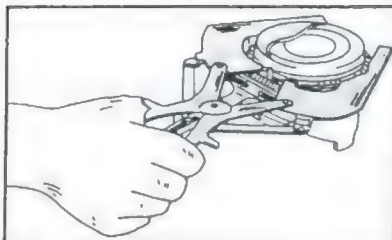

Fig. 1.33 - Removal or installation of piston rings with a pair of piston ring pliers. Never expand rings more than necessary to prevent breakage.
- Remove the piston rings one after the other from the pistons, using a piston ring pliers if possible (Fig. 1.33). If the rings are to be re-used, mark them in accordance with their pistons and position.